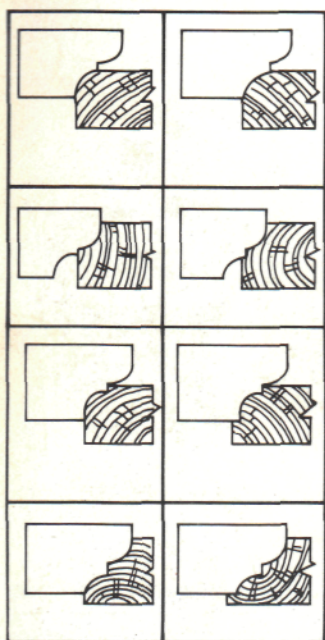

Fig. 42
- (viii) An infinite variety of profiles can be cut using the Shaping Head by varying the height of the cutter presented to the wood (Fig. 42).